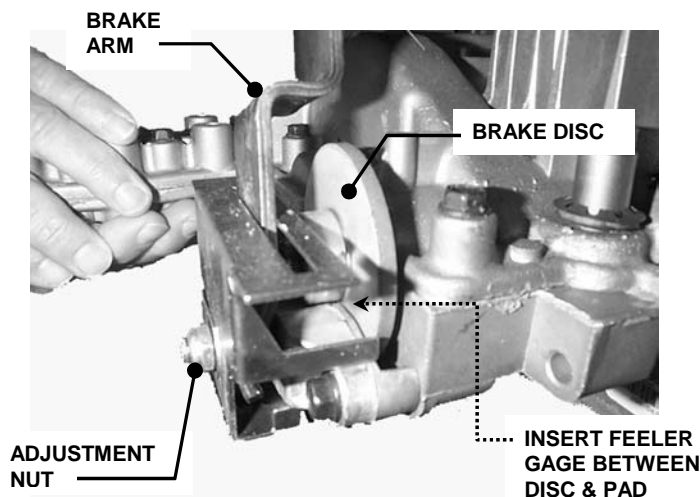

FIGURE 4.11
2. Locate disc brake on left side of transmission. Move brake arm fully forward in slot. See Figure 4.11.